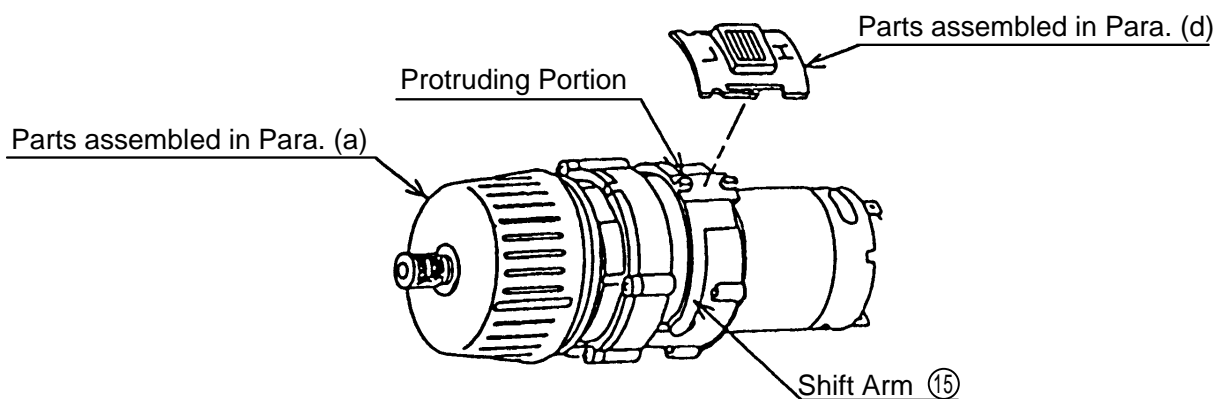

Fig.9
(f) Mount the components assembled as described in Para. (d) onto the protruding portions of the Shift Arm ⑮ that is mounted on the components assembled as described in Para. (a). (See Fig. 9)